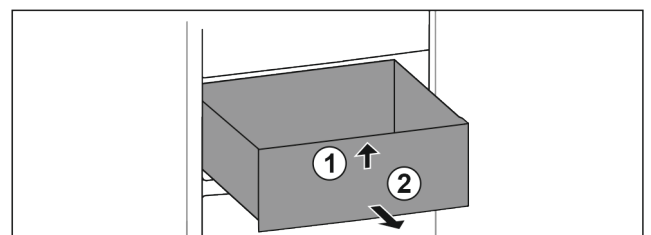

Fig. 75
- Lift up drawer at the front. Fig. 75 (1)
- Remove drawer to the front. Fig. 75 (2)